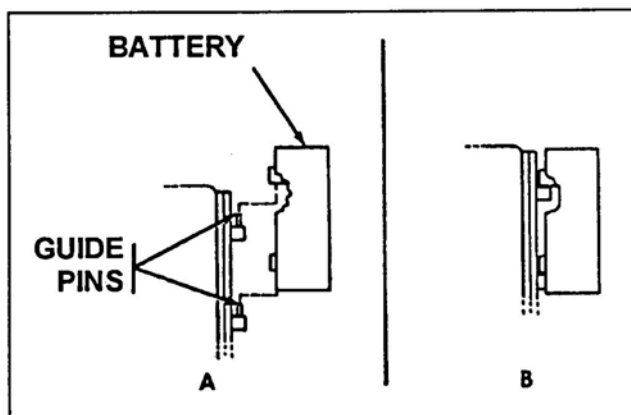

Figure 6. Battery Guide Pins
- (2) Align the battery over the battery guide pins (A, Figure 6).
- (3) Slide the battery down onto the guide pins until the battery connector seats properly (B, Figure 6).